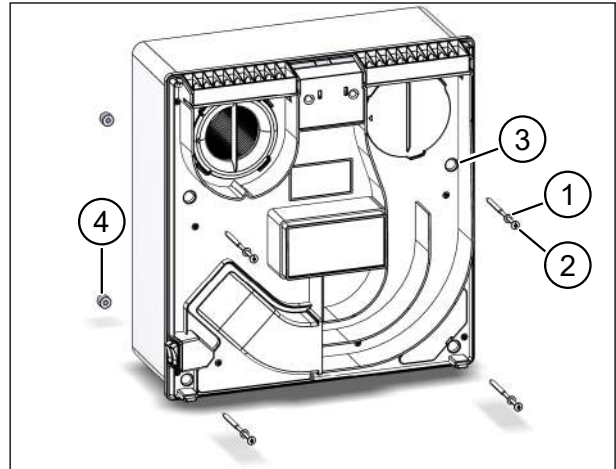

Fig. 33: Inserting the fixing screws
- ▶ Place the washers (item 1 in Fig. 33) on the cross-head screws (item 2 in Fig. 33) and introduce them into the holes in the housing (item 3 in Fig. 33).
- ▶ Screw the four centring guides (item 4 in Fig. 33) onto the four cross-head screws at the back until the tip of each cross-head screw protrudes roughly 10 mm over the centring guide.
- ▶ Use the four 5 x 100 mm cross-head screws (see Fig. 33 on page 34) to fix the ventilation unit to the installation kit. **Lightly** tighten the screws using a diagonal sequence.